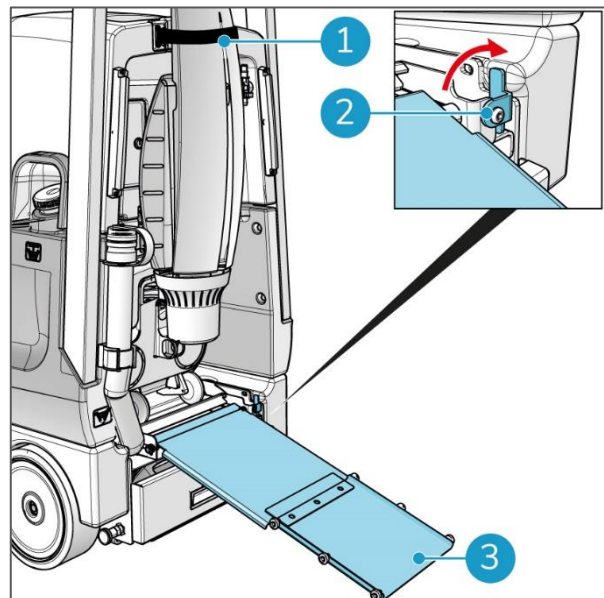

Figure 68
1. Loosen the strap holding the i-mop lite® (Figure 68, pos 1).
2. Unlock the blue lock (Figure 68, pos 2).
3. Pull out the ramp and unfold it (Figure 68, pos 3).